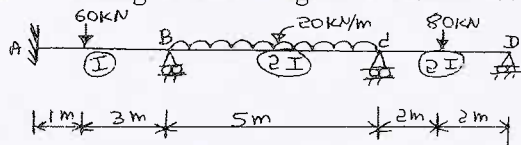

Fig.Q1 (16 Marks)
- 1 Analyze the continuous beam as shown in Fig.Q1 by slope deflection method and also determine its bending moment diagram and shear force diagram.